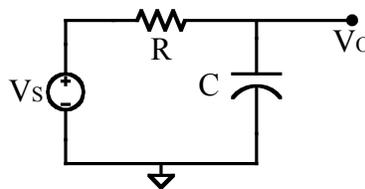

Figure 3. A Series RC Low Pass Filter.
The circuit in Figure 3 is a series RC low pass filter. When the frequency of V_S is 0 rad/s (DC), the capacitor has infinite impedance and acts like an open circuit and $V_O = V_S$. At high frequencies, the capacitor has very little impedance and acts like a short circuit. Therefore, as the frequency of V_S approaches ∞ , the potential of V_O approaches 0 V.
Use the Bode plot VI to create a Bode plot of the RC low pass filter you built for the PRELAB exercise (Figure 3) with a frequency range of $5 \text{ Hz} \leq \frac{\omega}{2\pi} \leq 10 \text{ kHz}$ at 25 equally spaced points and an amplitude of 2 V. Save the data generated by the Bode plot VI in a file to be imported into MATLAB.